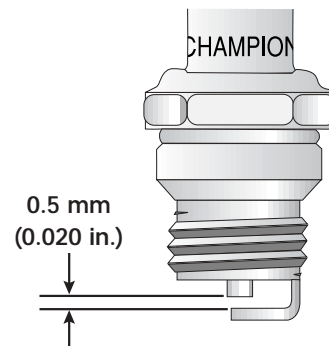

FIGURE 27
3. Set the air gap at **0.5 mm (0.020 in.)** using a feeler gauge, Figure 27.